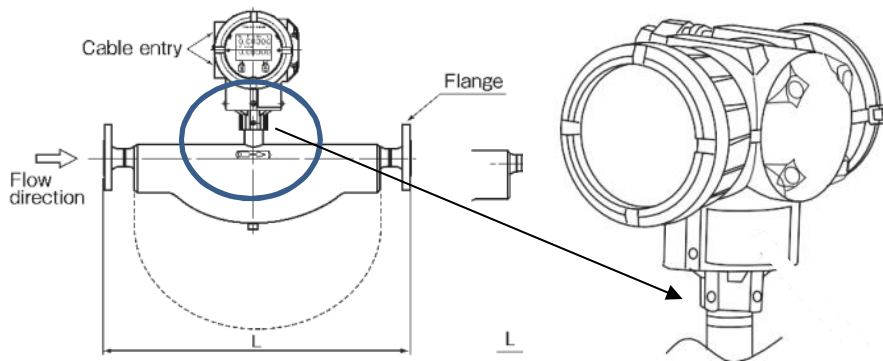

Fig.6: Sealing of integrally mounted transmitter
- For integrally mounted transmitter: sealing of the transmitter terminal with the sensor to prevent unauthorised separation of these components (see fig 6);